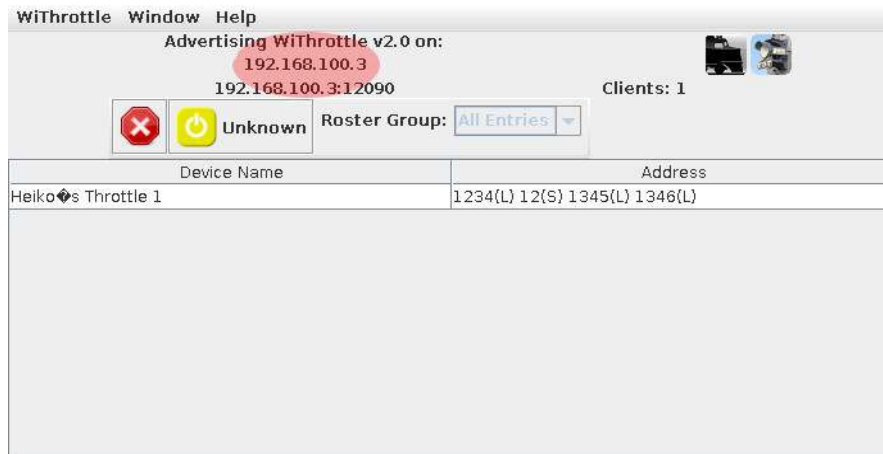

Figure 2: Screenshot of wiThrottle screen showing one throttle connected
In the second case, the throttle will change the last tuple of it's IP address to .253 – so if the wireless network is configured with IP addresses in the *192.168.100.x*-range as highlighted in figure 2, any web browser can access the configuration at *http://192.168.100.253*.
**Throttle name:** This is a free-form identification string of the throttle. It shows up in the wiThrottle window of JMRI as shown in figure 2 and can be used to identify the throttle during configuration.
Next the server settings can be found. The correct settings can be read from the JMRI withrottle server screen, as highlighted in figure 2. Normally the port does not need to be changed, as 12090 is the default setting.